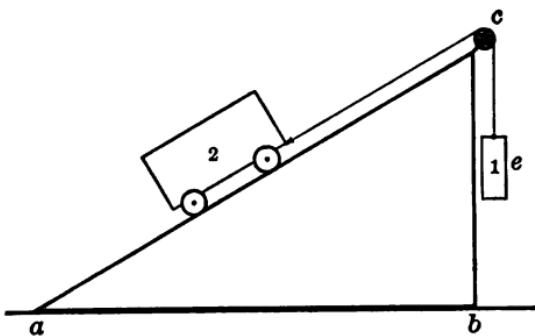
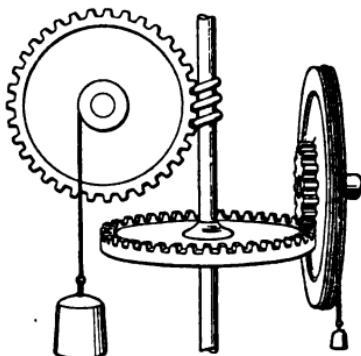

FIG. 93
FIG. 94
6. Many other mechanical devices are familiar. A *crank* or *eccentric* may be considered as a wheel and axle or as a lever. The *inclined plane* (Fig. 93) is just the same in principle as the wedge: if, in the figure, the side *ac* is twice as long as *bc*, every pound of weight or force at *e* will balance two pounds on the inclined plane. *Gear wheels* (Fig. 94) are very commonly used